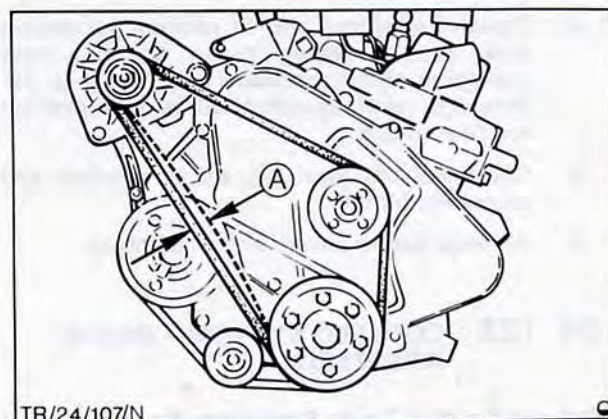

Fig. 30. Fan belt adjustment point 'A'
17. Refit fan belt over crankshaft, water pump and alternator pulleys. Adjust belt to correct tension, refer to technical data page for details. Fig. 30.